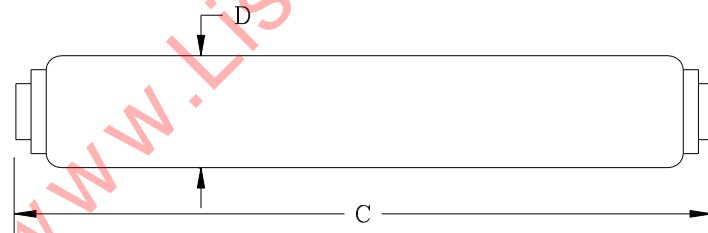

Figure 2 - Lamps with R17d recessed double-contact base
- b) R17d recessed double-contact base, see Figure 2